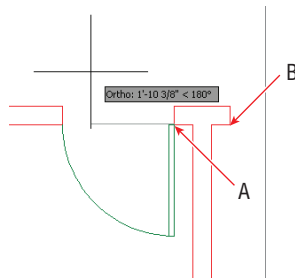

FIGURE 7.12 Inserting a door and rotating it on screen
- Click point A in the leftmost room, as shown in Figure 7.12. Verify that Ortho mode is on in the status bar; if not, toggle it on. Move the cursor to the left to rotate the door into the proper orientation (see Figure 7.12). Click on the drawing canvas to insert the door.
14. Click point B, as shown in Figure 7.12. The command prompt reads: